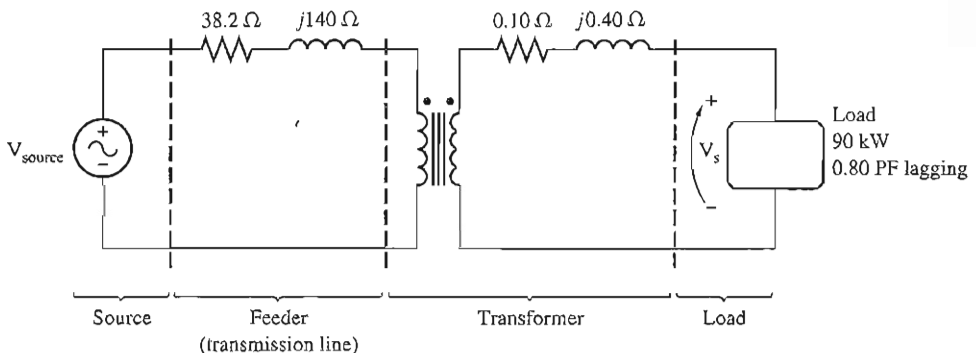

FIGURE P2-1
- 2-2. A single-phase power system is shown in Figure P2-1. The power source feeds a 100-kVA, 14/2.4-kV transformer through a feeder impedance of $38.2 + j140 \Omega$. The transformer's equivalent series impedance referred to its low-voltage side is $0.10 + j0.40 \Omega$. The load on the transformer is 90 kW at 0.80 PF lagging and 2300 V.